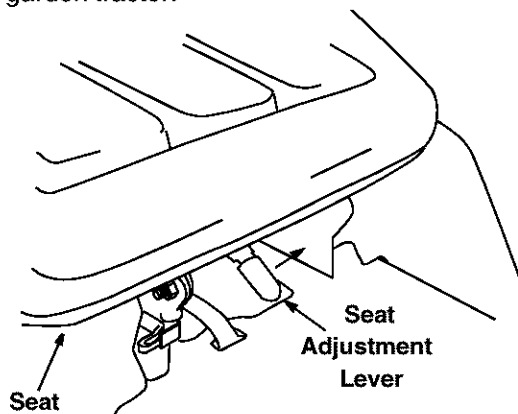

Figure 24
- To adjust the position of the seat, move the seat adjustment lever (located under the seat) to the left and slide the seat forward or backwards. See Figure 24. Make sure seat is locked into one of the six adjustment positions before operating the garden tractor.